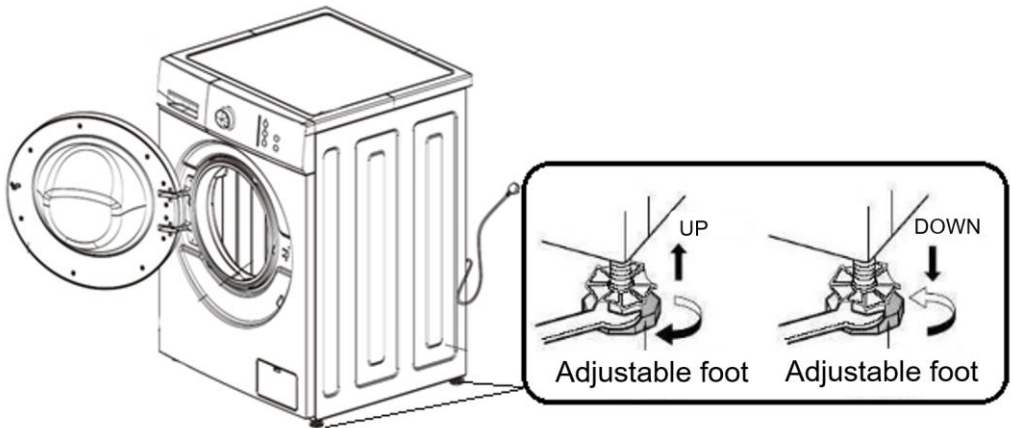

Fig. 10
- **Adjustment of the adjustable feet.** Adjust the adjustable feet so that the washing machine stands horizontally and firmly on the floor surface. After adjustment, tighten the lock nut securely (see Figure 10). Do not place the washing machine on a platform that is above floor level to prevent the machine from accidentally falling.